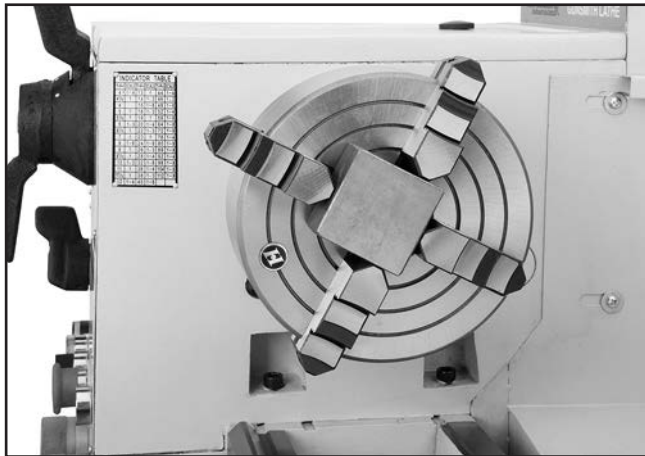

Figure 28. Properly held workpiece for low speed offset boring or machining.
8. After the workpiece is held in place, back the tailstock away and rotate the chuck by hand. The center point will move if the workpiece is out of center (see **Figure 28**).